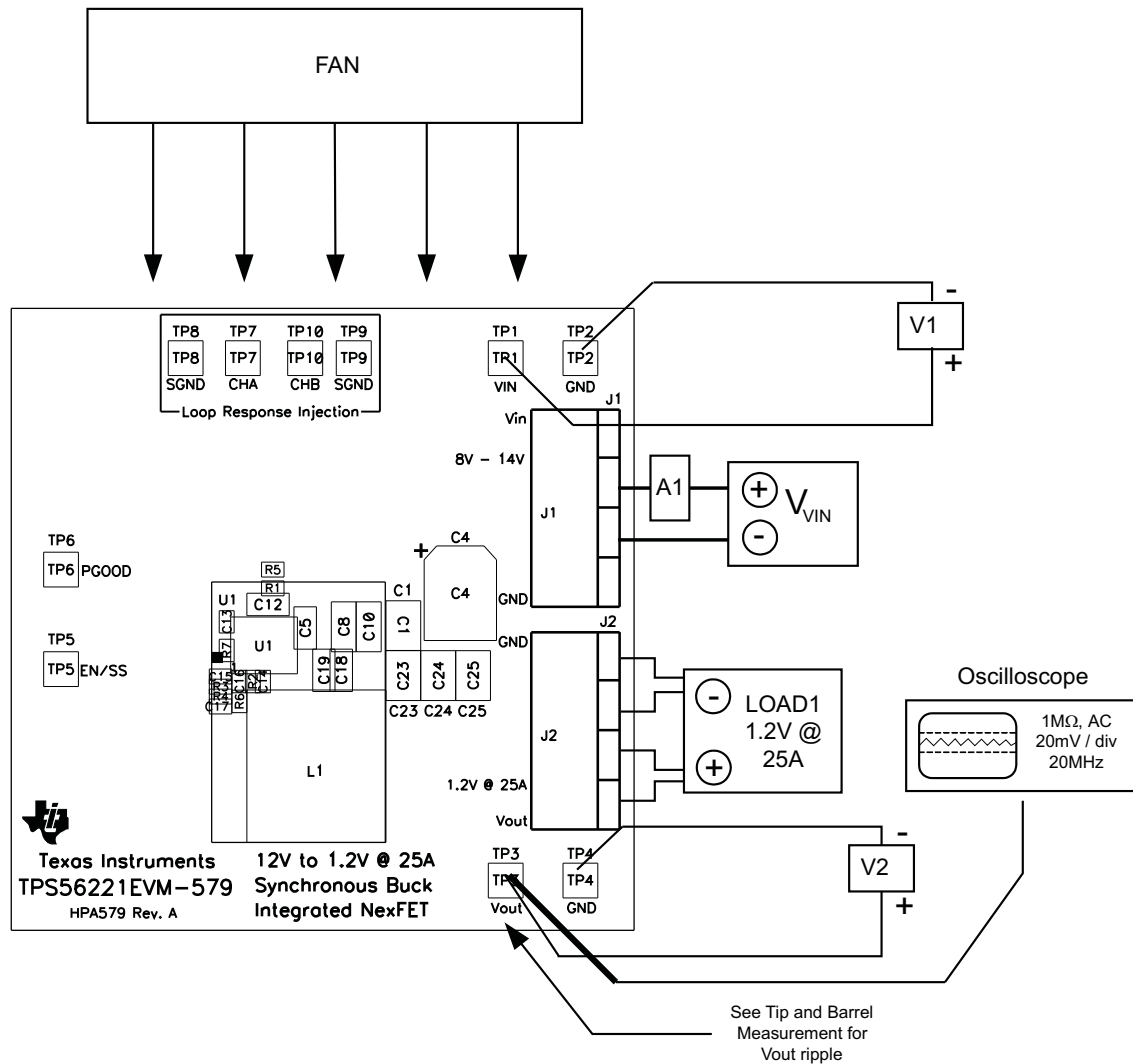

Figure 2. TPS56221EVM-579 Recommended Test Setup
Shown in Figure 2 is the basic test setup recommended to evaluate the TPS56221EVM-579. Note that although the return for J1 and JP2 are the same system ground, the connections must remain separate as shown in Figure 2.
2. Prior to connecting the dc input source, V_{IN} , it is advisable to limit the source current from V_{IN} to 4 A maximum. Ensure that V_{IN} is initially set to 0 V and connected as shown in Figure 2.
3. Connect V_{IN} to J1 as shown in Figure 2.
4. Connect ammeter A1 between V_{IN} and J1 as shown in Figure 2.
5. Connect voltmeter V1 to TP1 and TP2 as shown in Figure 2.
6. Connect voltmeter V2 to TP3 and TP4 as shown in Figure 2.
8. Locate the fan as shown in Figure 2 and turn it on, ensuring that the air blows directly across the evaluation module.